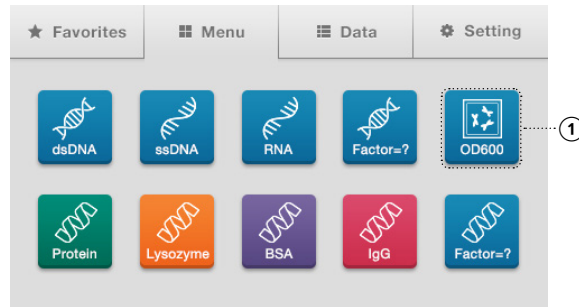
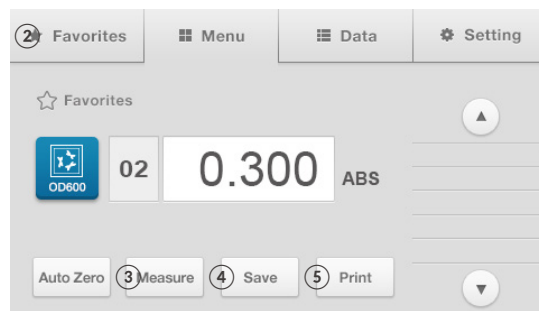

Fig. 5.2
Fig. 5.3
1. [Figure 5.2] Press the ① [OD600] icon after selecting an additional menu on the screen.
3. Close the cell cover and press ③ [Auto Zero] to measure. Remove the Cuvette when the measurement is complete.
4. Put the sample into a 10 mm Standard Cuvette and insert the Cuvette into the square cell holder. ④ Press the [Measure] button to measure. Remove the Cuvette when the measurement is completed.
5. [Figure 5.3] To continue measurement, repeat the operation. To finish measurement and save the data, press the [Save] button.
6. [Figure 5.3] To conduct new measurement, press the ② [Favorites] icon in the upper-side menu to open the main menu.